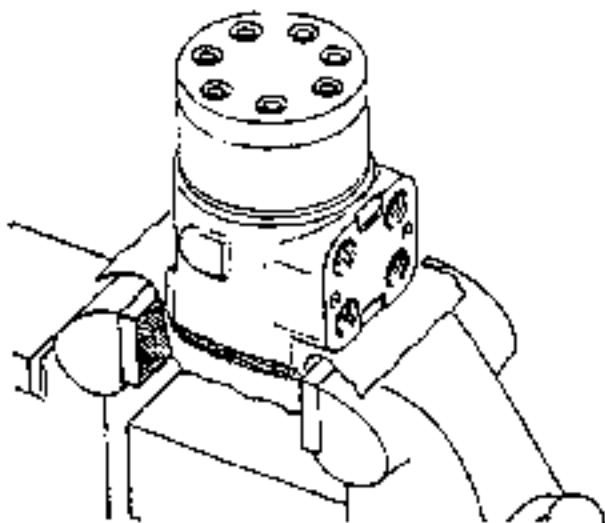

Figure 1
1. Clamp unit in vise, meter end up. Clamp tightly on edges of mounting area, see Fig. 1. Use protective material on vise jaws. Housing distortion could result if jaws are overtightened.